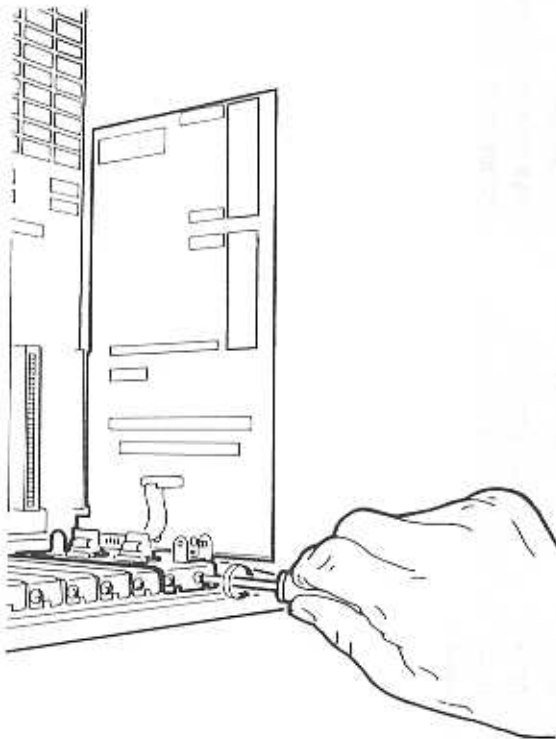

Figure 2-7. Removing the Metal Slot Cover
1. Using a Phillips screwdriver, unscrew and remove the metal slot cover for the desired location on the system unit connector panel, as illustrated in Figure 2-7.